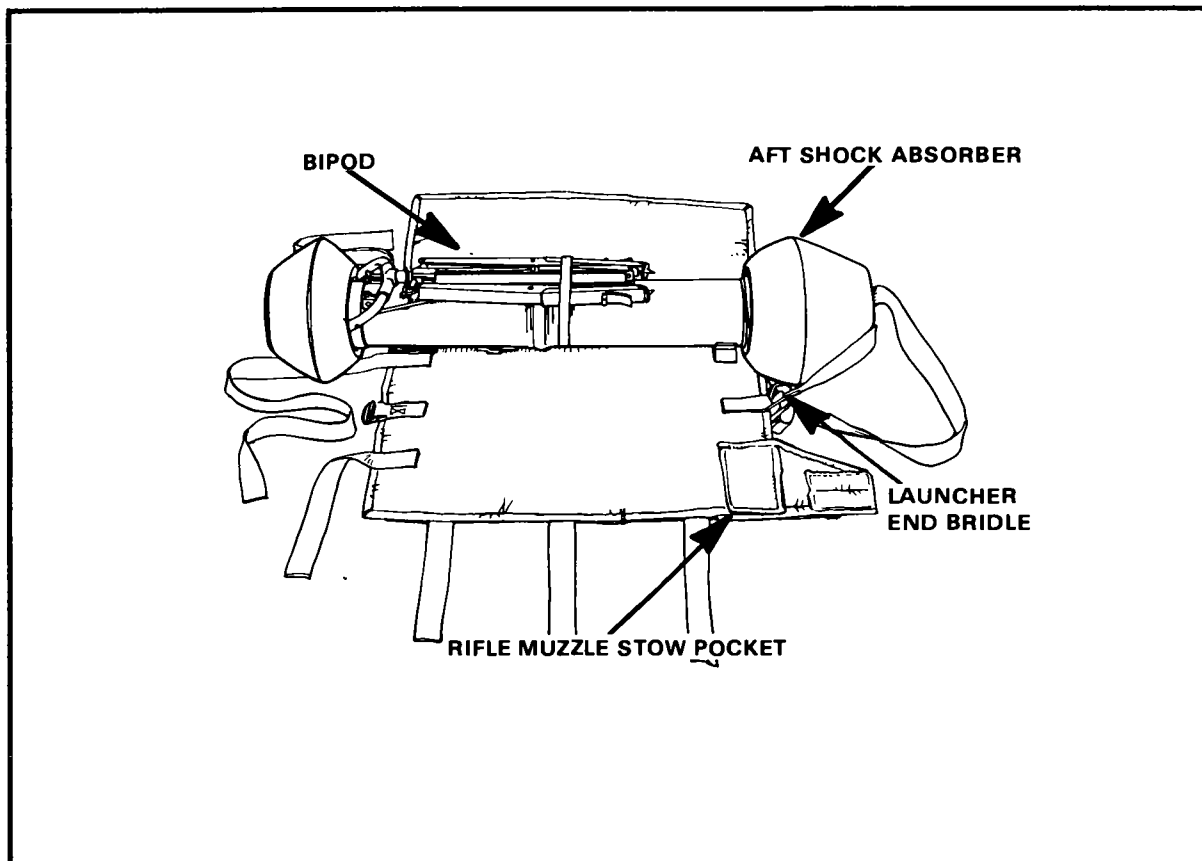

Figure 6-32. Missile being positioned.
(1) Place the pack with the felt side of the pack body facing up and extend all straps.
(2) Position the missile in the pack with the bipod facing up (Figure 6-32).
(3) Fit the aft shock absorber (large end) into the nonadjustable launcher aft end bridle of the jump pack.